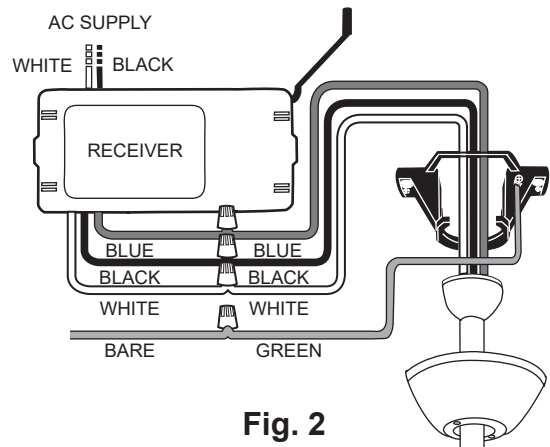

Fig. 2
- Make connections as follows, using the wire nuts supplied (Fig. 2):
- Lay the black antenna wire on top of the receiver, and put the receiver in the mounting bracket. (Fig. 2)